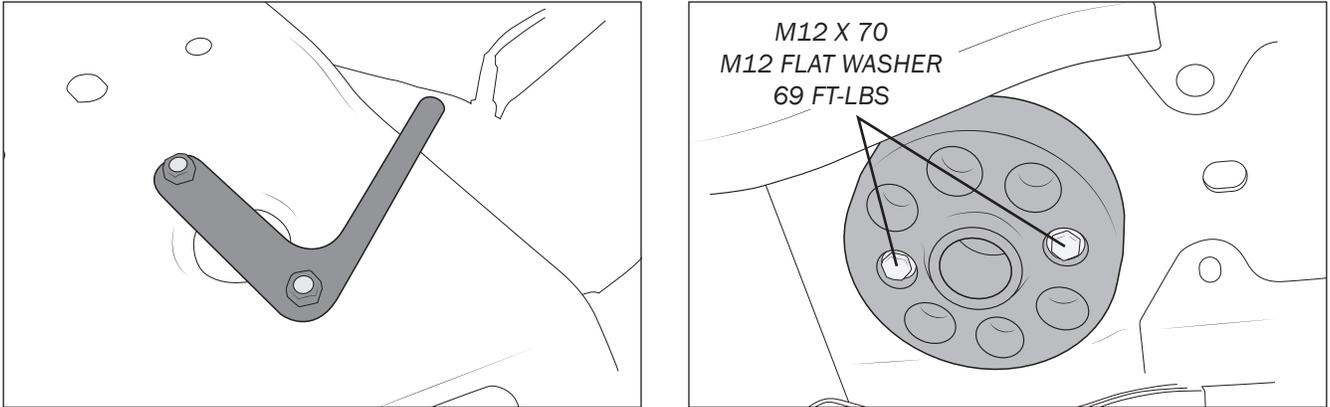

Figure 46 – Left: Tabbed nut-plate, Right: AEV Coil Spacer
5. Install AEV coil spring spacers with supplied hardware and nut plate (fig. 46).